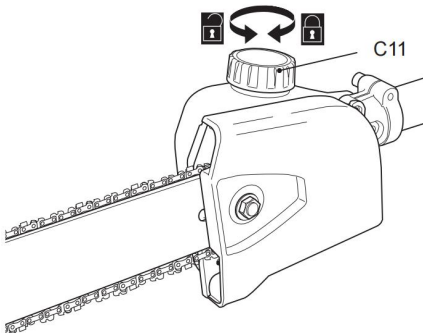

Fig. 16
- 2) Unscrew and remove the oil tank cap (C11) (Fig. 16), then add suitable lubricant into the tank. We recommend using environmentally-friendly chain oil specifically intended to be used with this product.